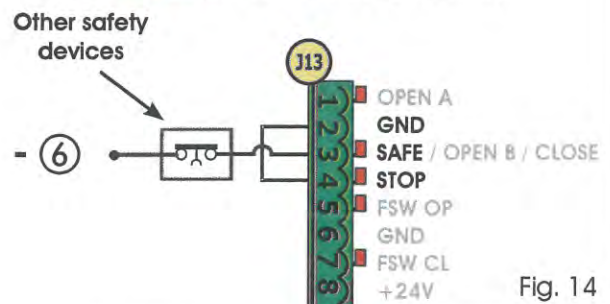

Fig. 14
**Hand icon:** If the Fail Safe safety device is disabled (parameter that can be set in programming level 2), the negative used for managing the SAFE input is - 6 (see Fig. 14).